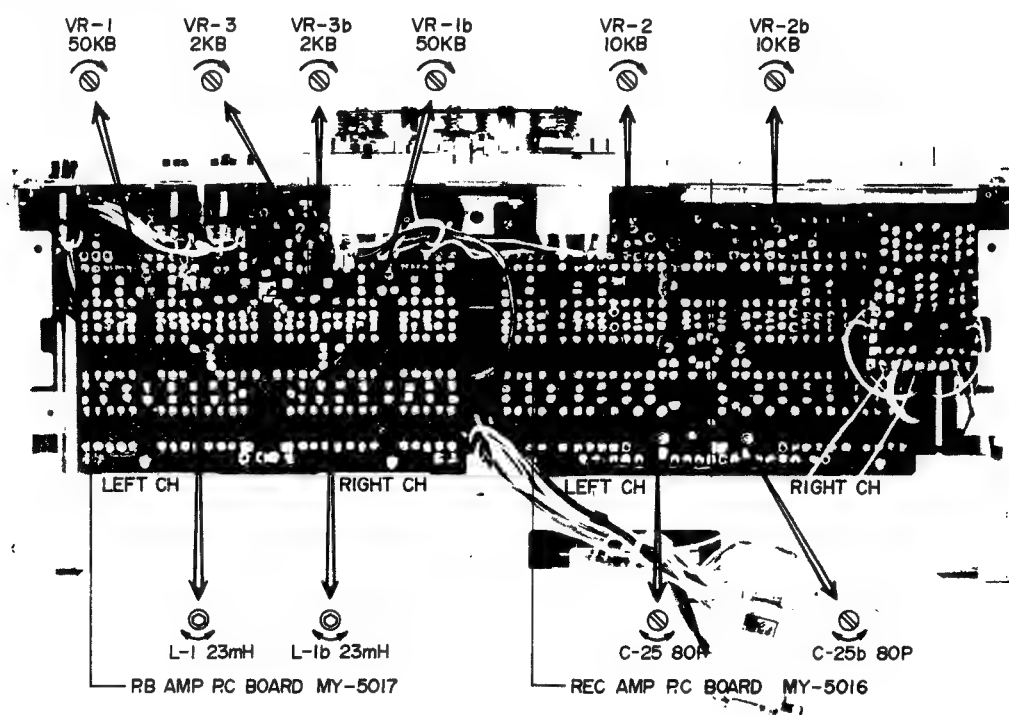

Fig. 13
3. RECORDING AND PLAYBACK AMPLIFIER ADJUSTMENT (Model GX-630D) (Refer to Fig. 13)
4. RECORDING AND PLAYBACK AMPLIFIER ADJUSTMENT (Model GX-630DB) (Refer to Figs. 13, 14)